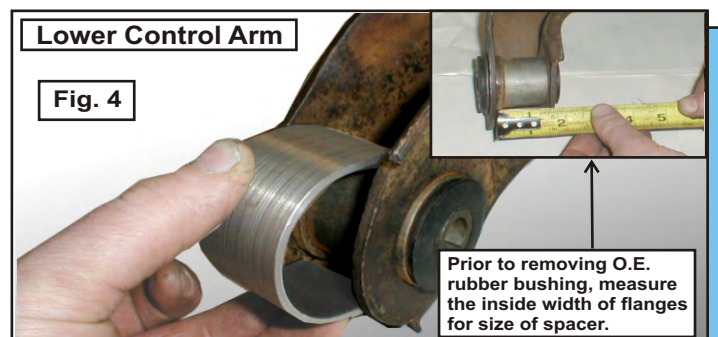

Fig. 4
**If your new bushing kit does not have new shells and/or sleeves, you must reuse the original shells and /or sleeves. Do not press out shells. Leave shells in arm.** To remove the old rubber from the factory shells and inner sleeves, apply light heat evenly around the outside of the control arm, (Fig 1) just enough to break the bond with the rubber. When you see light smoke coming from the sides of the bushing the bond should be broken. At no time should there be any flames coming from the rubber, if there are any flames, you need to back off with the heat. Just push the old rubber and inner metal sleeve out. Let the outer metal shells and sleeves cool off before cleaning. **If your new bushing kit has new shells and/or sleeves, you will need to press out the old shells.** Before removing old bushings from upper control arm measure from outside of shell to outside of shell and record this dimension for later use. This should be the same measurement after the new metal shells are pressed in.. (Fig.3) Note the locations of any washers on cross-shaft prior to removal. All washers, or spacers on shaft must be reused, and installed in correct location before installing new bushings. To keep from bending the flanges of the arm during installation of the new shells, use a piece of angle iron or channel cut to the size of the inside width of the flanges. Note: When a control arm shaft is used, it must be in position before installing bushings and/or new shells. Before removing old bushing from lower control arm measure outside of shell to outside of shell and record this dimension for later use. (Fig. 4) You will need to find something to put between the flanges before pressing out the old bushings and for pressing in the new shells. Use either metal channel, tubing, or thick wall PVC tubing for spacers. Grease I.D. of shell. Grease bushing and install in shell. Grease sleeve and install in bushing. Re-torque to hardware to factory specifications.